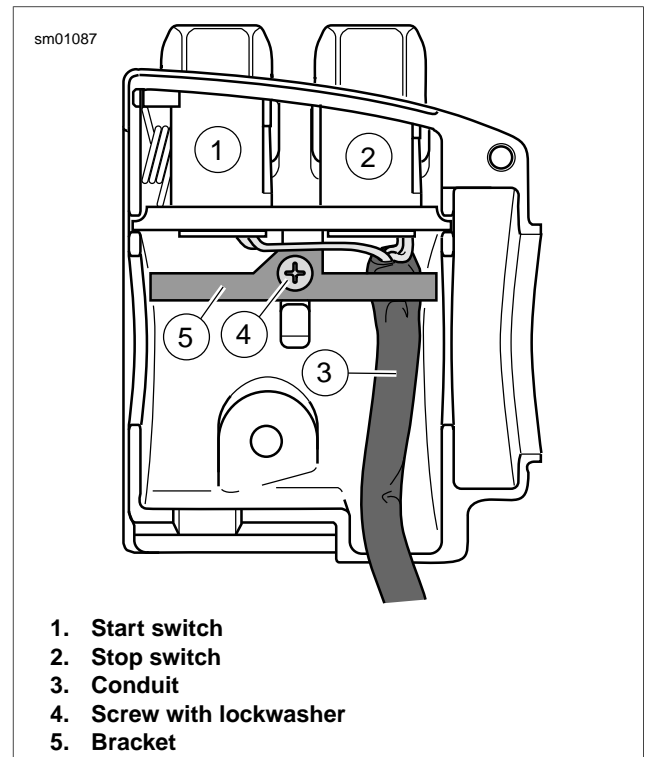
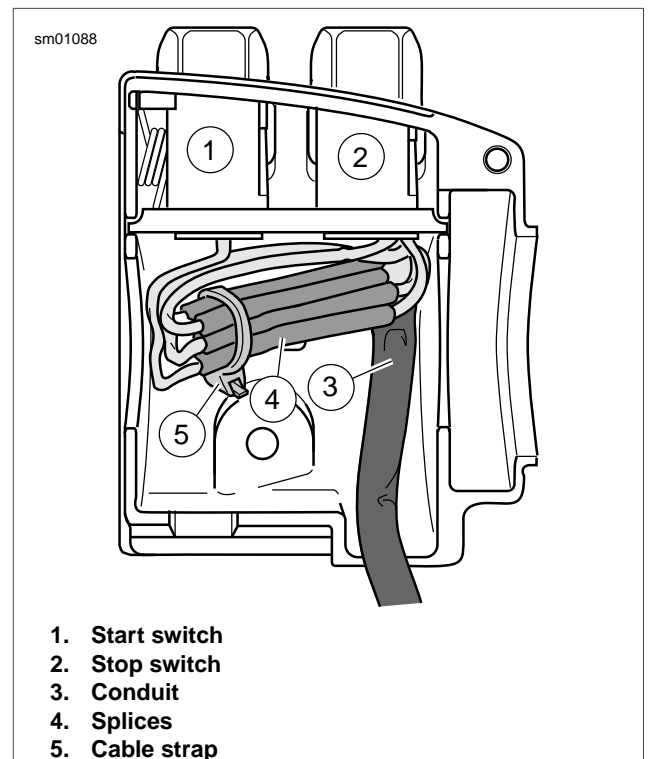

Figure 8-86. Upper Housing Without Splices
Figure 8-87. Upper Housing With Splices
1. See Figure 8-86. From inside the switch housing, remove the screw with lockwasher (4) to release the bracket (5). Remove the bracket and switch assembly from the housing.
2. Move cable conduit (3) from beneath wing of bracket. Cut wires 0.25 in. (6.4 mm) from old switches (1, 2). Discard old switch and bracket assembly.
3. Slide conduit forward over cut ends of switch wires and cut off 0.5 in. (12.7 mm) of conduit (3) material. Push conduit back to access switch wires.
4. Separate new engine stop switch (2) and engine start switch (1) wires into two bundles.
6. Loop switch wires so that spliced lengths are positioned as shown in Figure 8-87. Route wires downstream of splices beneath wing on engine stop switch side of bracket as shown in Figure 8-86.
7. See Figure 8-87. Install a **new** 7.0 in. (177.8 mm) cable strap (5) beneath wing on engine start switch side (1) of bracket and capture wire splices (4).
9. See Figure 8-86. Install screw and lockwasher (4) to secure bracket (5) inside housing. Verify that wing on engine stop switch (2) side of bracket captures edge of conduit (3) as shown.